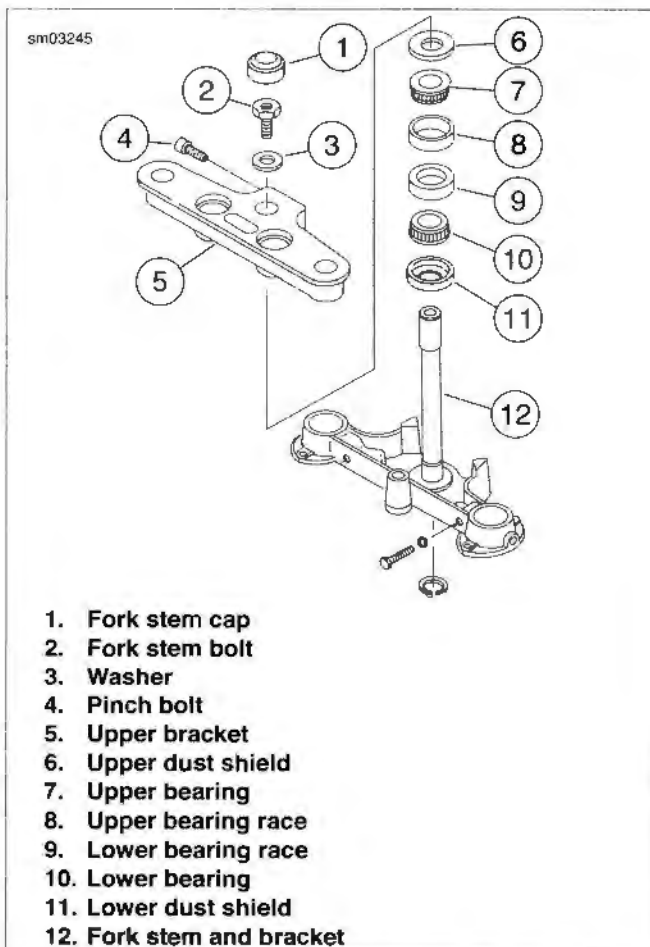

Figure 2-78. Steering Head: FLST, FLSTC, FLSTF/B, FLSTN
4. See Figure 2-78. Remove the brake hose bracket from the bottom of the fork stem and bracket (12).
5. Remove the fork stem cap (1). Loosen pinch bolt (4) and remove fork stem bolt (2). Remove washer (3) with the handlebar and upper bracket (5) assembly.
6. Remove the fork stem and bracket (12) from the steering head. Remove the upper dust shield (6).
7. Remove upper bearing (7).
1. See Figure 2-78. Insert the fork stem and bracket assembly (12) (with lower dust shield and bearing) into the frame steering head. Install the upper bearing (7) and dust shield (6).
2. Install the upper bracket (5), a **new** washer (3), and fork stem bolt (2). Tighten the fork stem bolt until the bearings have no noticeable shake. Fork stem must turn freely from side to side.